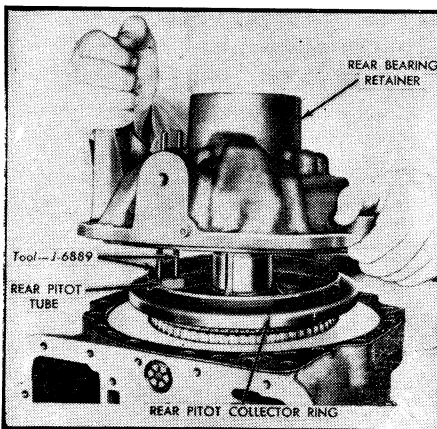

Fig. 13 Rear bearing retainer installation. Guide bolts shown may be made from 1/4" brazing rod 6" long and threaded for a length of 3/8"
3. Place pitot tube in rear pitot collector ring with tube portion toward vanes and guide bolts toward rear of transmission, Fig. 13.